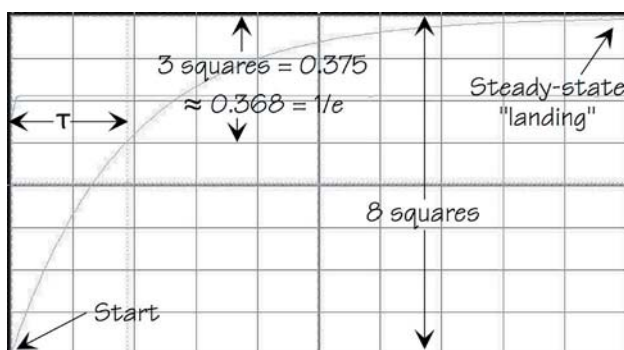

Fig. 3—Measuring time constant τ
3. The scope gives you finer control of both amplitude and position with the two sets of up and down arrows in the controls for the vertical channels. Use these if you need to so the trace looks like Fig. 3.
7. Using your knowledge of the time constant τ of an RC circuit and the value of the resistance R , calculate the value of the capacitance C . How does this compare with the capacitor’s marked value? [Clue: The data shown in Fig. 3 yield $C = 0.00955 \mu\text{F}$, a difference of 4.5% from the marked value in Fig. 1.]